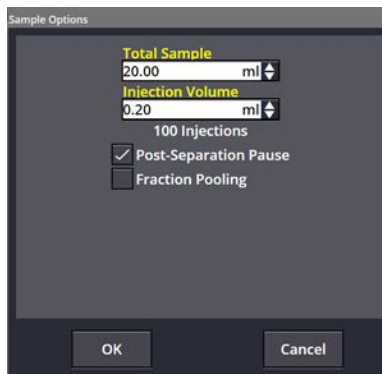

Figure 3-11 The Sample Options window
- c. Enter the TOTAL SAMPLE volume and INJECTION VOLUME for each run. To initially fine-tune the method, enter a small injection volume such as 0.2 mL (see Figure 3-11), as you will be able to change it later.